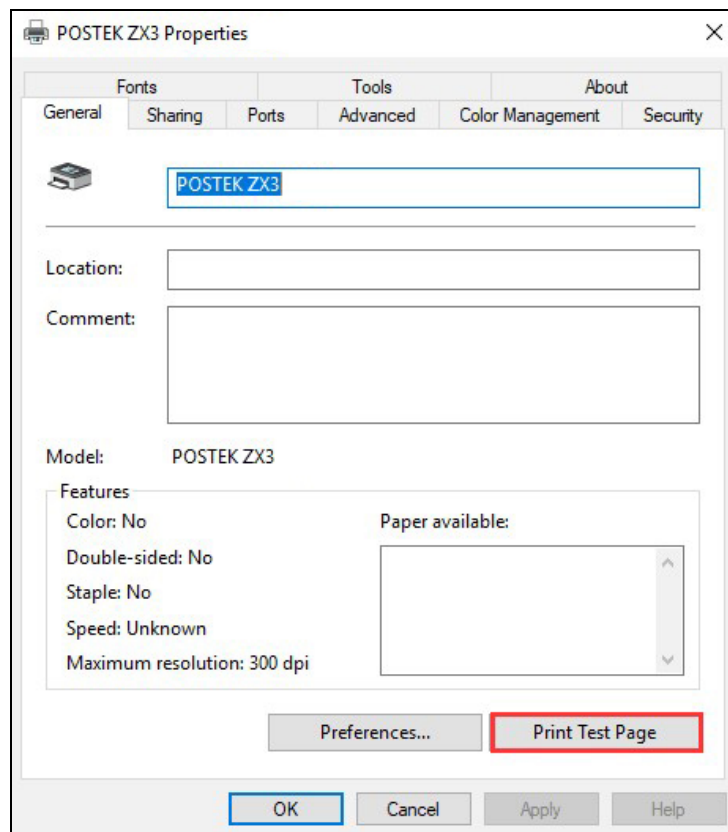

Figure 2-33 Print Test Page
- 9. Print a test page to see whether the printer is connected properly, as shown in Figure 2-33.